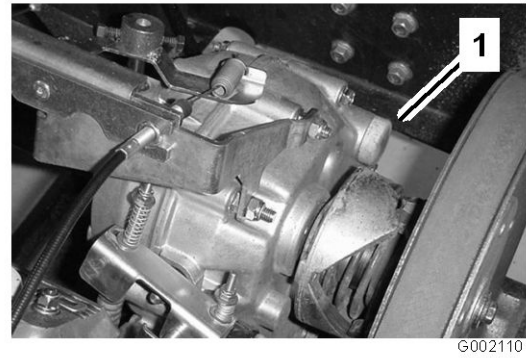
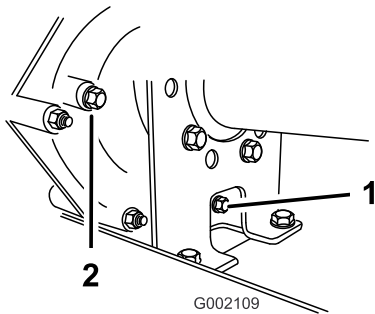

Figure 49
Figure 48
2. Remove the drain plug from the right side of the reservoir (Figure 48) and let the fluid flow into a drain pan. Install and tighten the plug when the fluid stops draining.
3. Fill the reservoir (Figure 49) with approximately 1-1/2 qt. (1.4 liters) of SAE 10W30 motor oil or until the oil level is at the bottom of the level indicator hole (Figure 48).